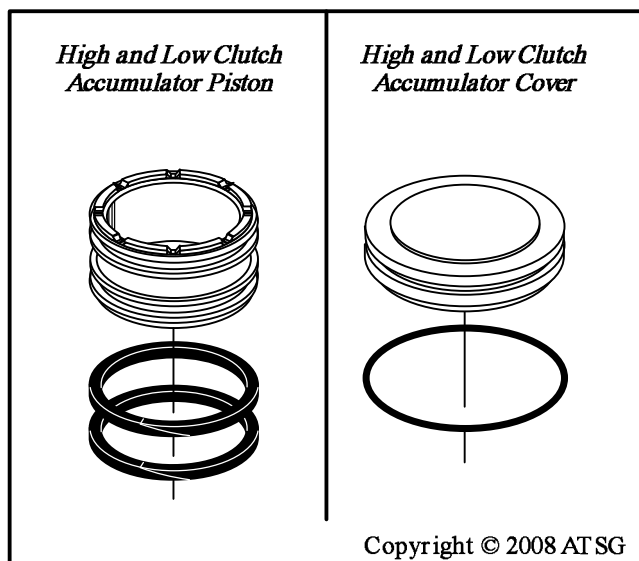

Figure 164
13. Install two new scarf-cut seal rings on both the high and the low clutch accumulator pistons, as shown in Figure 164, and ensure the scarf-cut is configured properly.
15. Install new "O" ring on both the high and the low clutch accumulator covers, as shown in Figure 164, and lube with small amount of the proper ATF for the vehicle.